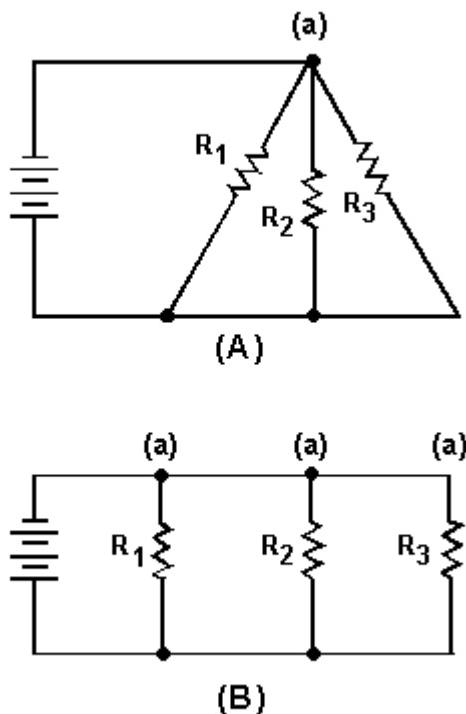

Figure 3-56.—Redrawing a simple parallel circuit.
Figure 3-56(A) is a schematic of a circuit that is not drawn in the box-like fashion used in previous illustrations. To redraw this circuit, start at the voltage source and trace the path for current to the junction marked (a). At this junction the current divides into three paths. If you were to stretch the wire to show the three current paths, the circuit would appear as shown in figure 3-56(B).
While these circuits may appear to be different, the two drawings actually represent the same circuit. The drawing in figure 3-56(B) is the familiar box-like structure and may be easier to work with. Figure 3-57(A) is a schematic of a circuit shown in a box-like structure, but may be misleading. This circuit in reality is a series-parallel circuit that may be redrawn as shown in figure 3-57(B). The drawing in part (B) of the figure is a simpler representation of the original circuit and could be reduced to just two resistors in parallel.